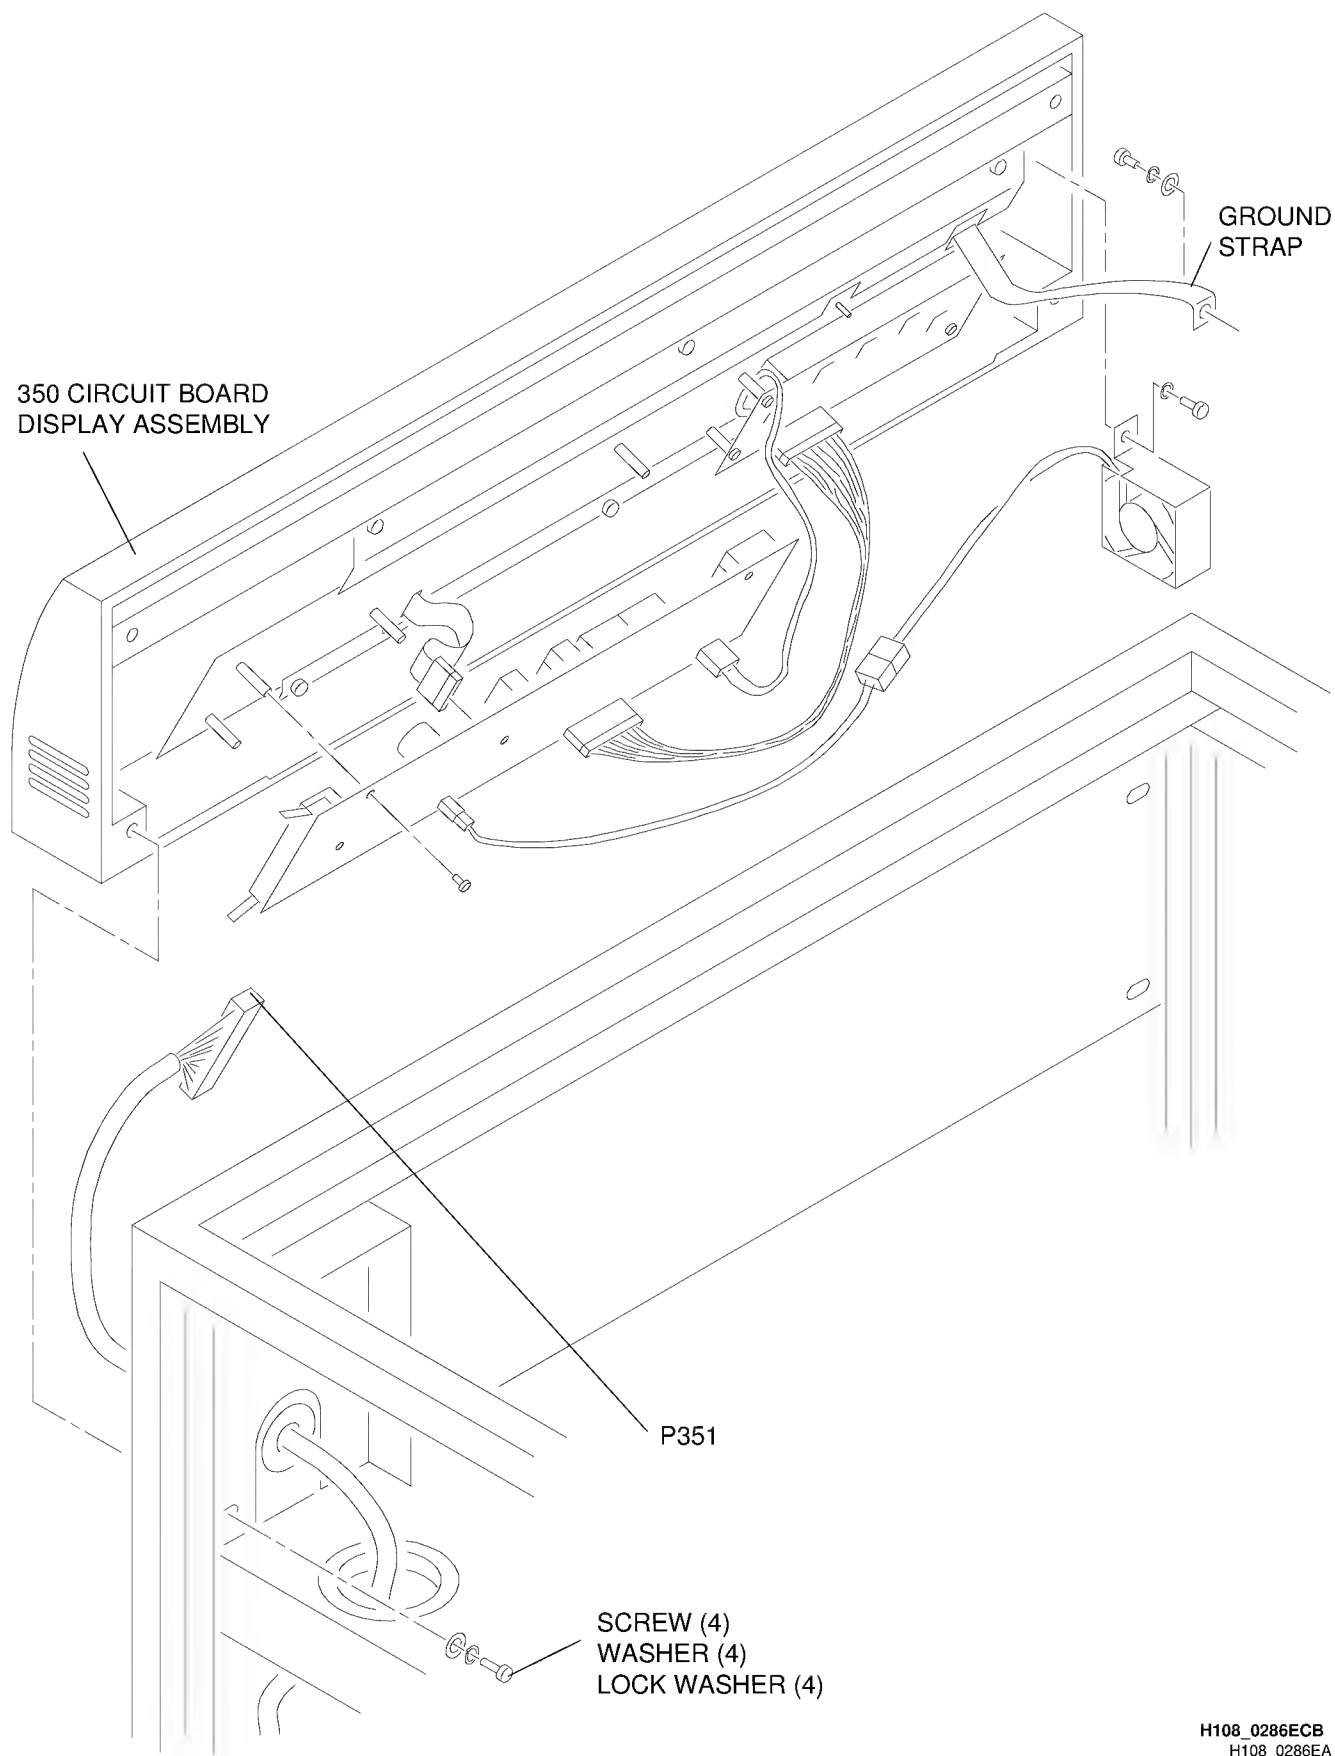

Figure 6-13 Removing the 350 Circuit Board Display Assembly
- [3] Disconnect the GROUND STRAP. See Figure 6-13.